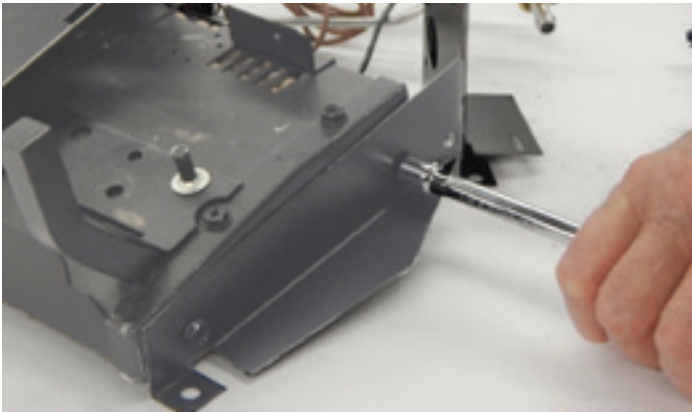

Figure 18
19. With 5/16" nutdriver, remove the two hex head sheet metal screws which attach the right burner support to the burner. Remove the right burner support and save the screws. **See Figure 18.**